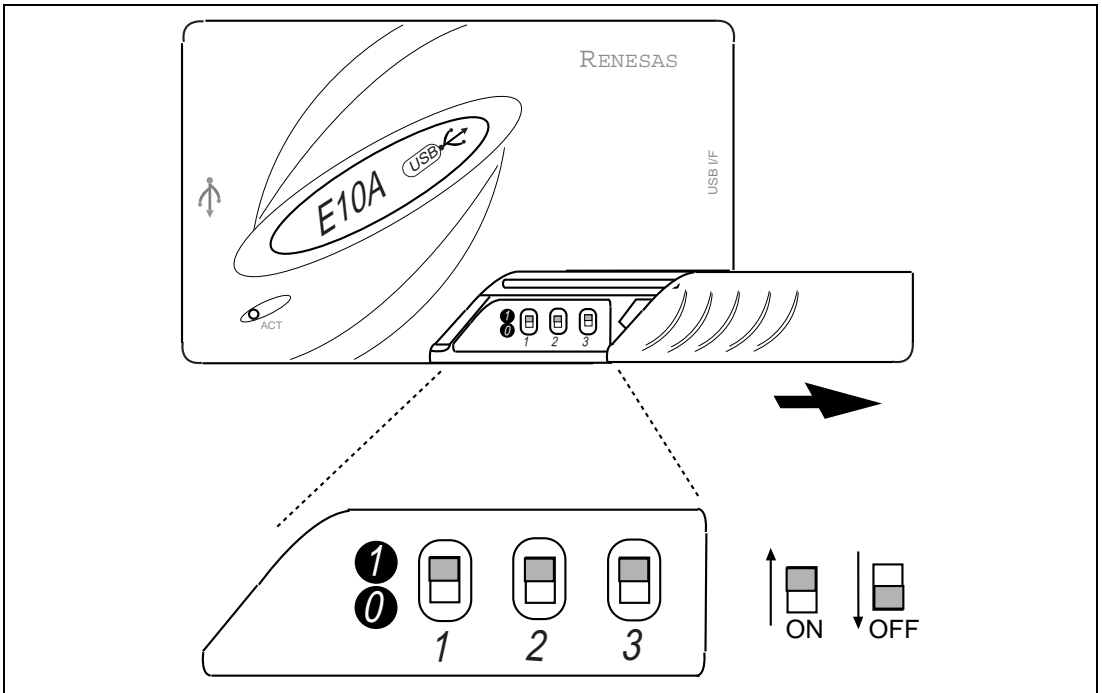

Figure 2.12 Setting the DIP Switches of the E10A-USB Emulator
1. Open the sliding switch cover in the lower right portion of the upper side of the E10A-USB emulator by sliding it to the right as shown in figure 2.12.